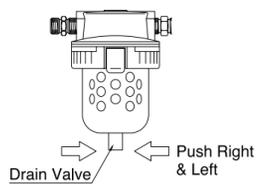

Fig.10
①Moisture in the Air Filter (Fig.10)